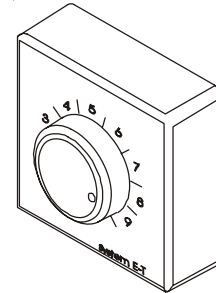

Fig. 1
- 1.3 Turn the Thermista-stat (room temperature control) to position “9” (see fig. 1).